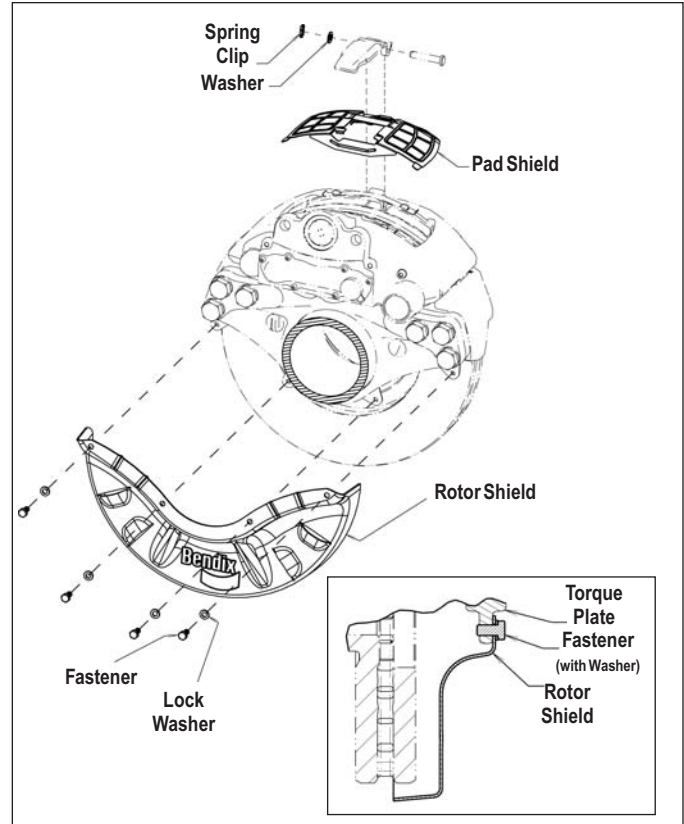

FIGURE 32 - TRAILER AXLE EXPLODED VIEW WITH INSET SHOWING ROTOR SHIELD INSTALLATION
5.1.4 **Trailer Axle Rotor Shields** (See Figure 32). Position the rotor shield with *the torque plate between the shield and the rotor*. With one (supplied) lock washer in place on each cap screw, pass the screws through the shield before mounting onto the threaded torque plate holes. Torque the cap screws to 24 Ft. Lbs. (288 in. lbs.).